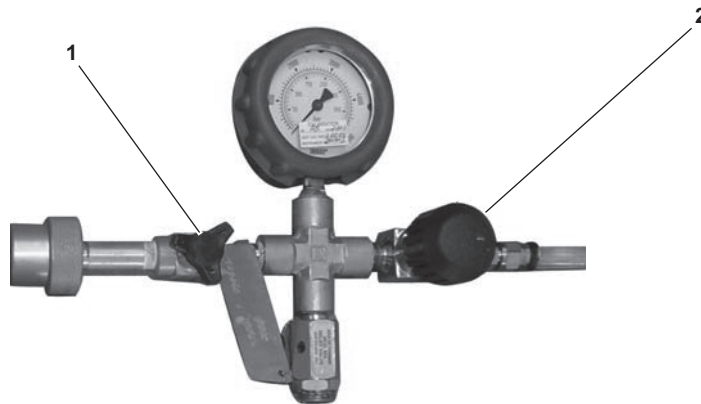

Figure 2-16. Fill Hose Bleed Valve and Fill Hose Shutoff Valve
- j. Ensure that the fill hose bleed valve (figure 2-16, item 1) and the fill hose shutoff valve (figure 2-16, item 2) on both fill hose assemblies are closed by turning fully CW.